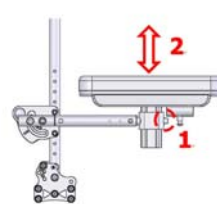

Figure 5-59
5.3.4.2.9 When adjusting the armrest pad upwards or downwards, use the #4 Allen Key Wrench to loosen the screw used to fixing the armrest frame. (Figure 5-59)